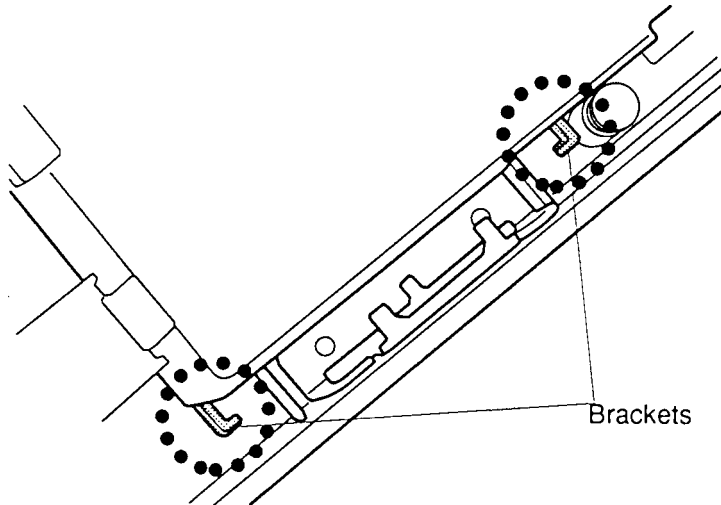

*Figure 4-31 Removing the power/reset cable*
8. Disconnect the **power/reset cable** from the **power/reset board** (figure 4-31).
1. Connect the **power/reset cable** to the **power/reset board** (figure 4-31).